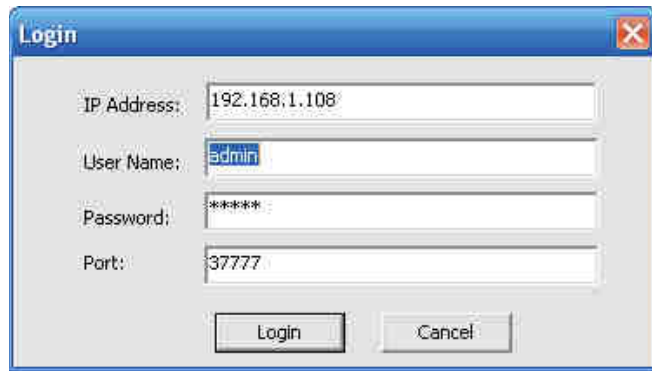

Figure 5-4
- In the configuration tool search interface (Figure 5-4), please select a device IP address and then double click it to open the login interface.
- Or you can select an IP address and then click the Login button to go to the login interface. See Figure 5-4.
In Figure 5-4, you can view device IP address, user name, password and port. Please modify the corresponding information to login.